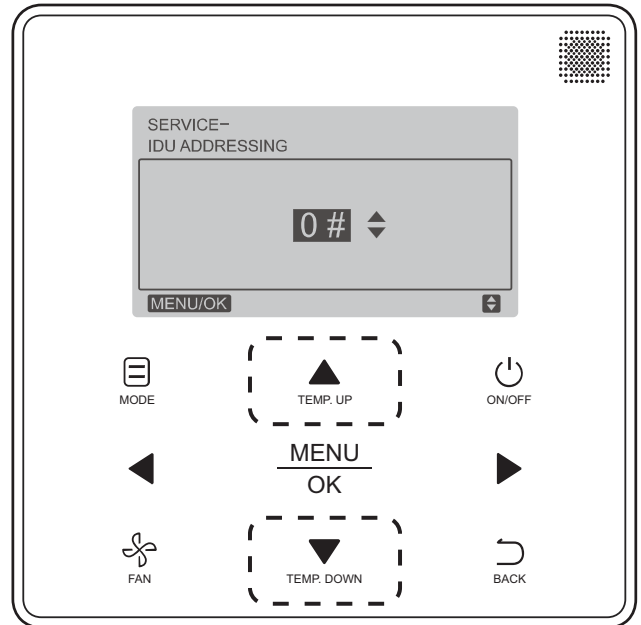

Fig. 33 — Programmable Controller (40VM90003) Setting IDU Address
3. Press **TEMP. UP** or **TEMP. DOWN** to choose the address you want to set, see Fig. 33. Press **MENU/OK** to send this address to the IDU.